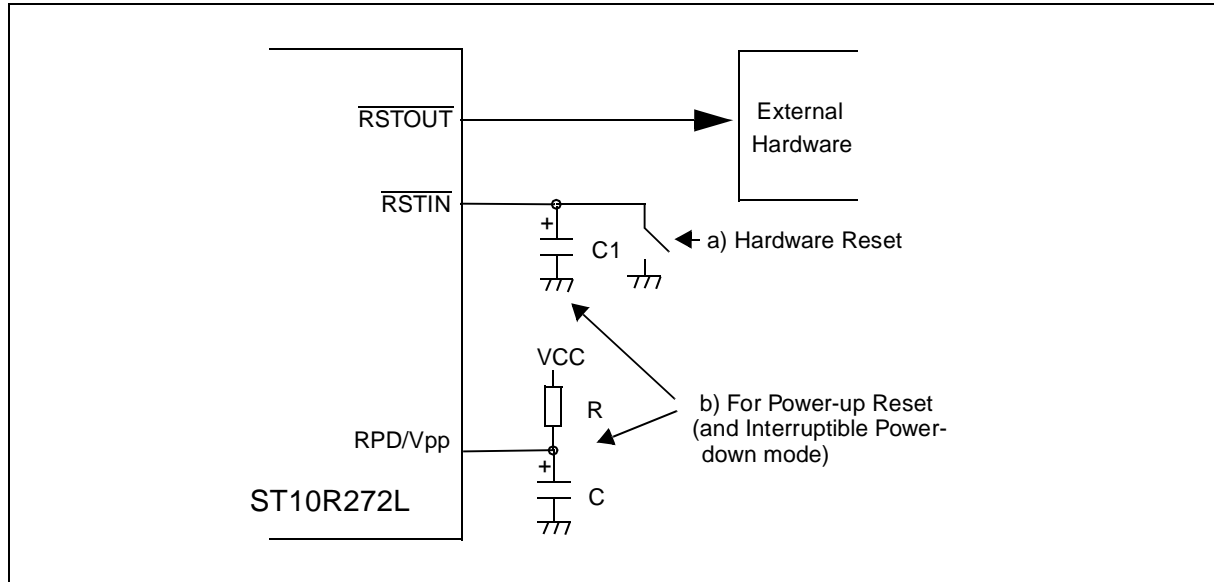

Figure 111 Minimum external reset circuitry
An asynchronous hardware reset is required during power-up, to guarantee correct power-up reset with controlled supply current consumption (especially if the clock signal requires a long stabilization time). It is recommended to connect the external RC circuit shown in *Figure 111* to the RPD/Vpp pin. On power-up, the logical low level on RPD/Vpp pin forces an asynchronous hardware reset when $\overline{\text{RSTIN}}$ is asserted. The external pull-up will then charge the capacitor C. Note that an internal pull-down device on RPD/Vpp pin is turned on when $\overline{\text{RSTIN}}$ pin is low, and causes the external capacitor (C) to begin discharging at a typical rate of 100 μ A to 200 μ A. With this mechanism, after power-up reset, short low pulses applied on $\overline{\text{RSTIN}}$ produce synchronous hardware reset, but if $\overline{\text{RSTIN}}$ is asserted longer than the time needed for C to be discharged by the internal pull-down device, then the hardware reset starts in a synchronous manner if a clock is applied, but is then forced in an asynchronous manner. This mechanism insures recovery from very catastrophic failure.
The minimum reset circuit of *Figure 111* is not adequate when the $\overline{\text{RSTIN}}$ pin is driven from an external device, because of the capacitor C1 that will keep the voltage above V_{IL} for short low pulses applied on $\overline{\text{RSTIN}}$ pin.